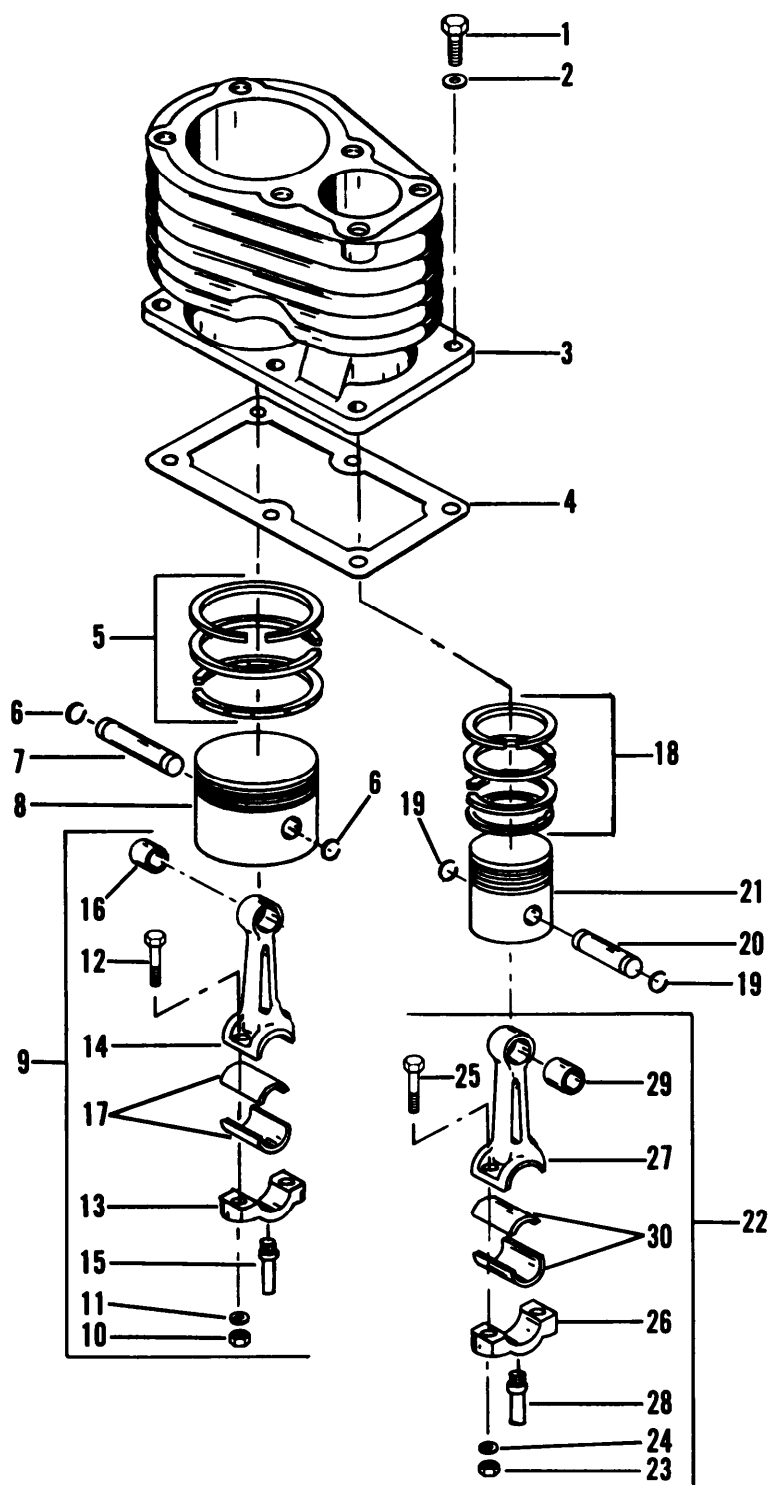

Figure 5-4. Cylinder, pistons, and connecting rods
- (1) Unscrew and remove six cylinder bolts (1, fig 5-4) and washers (2). Tap cylinder (3) lightly on mounting flange to break seal with compressor frame and carefully lift off cylinder (3). Remove gasket (4).
- (2) Use a piston ring expander and remove the three-ring first stage ring set (5). Remove the two piston pin retaining clips (6), slide out piston pin (7) and remove the first stage piston (8).
- (3) To remove first stage connecting rod assembly (9), rotate crankshaft to position where connecting rod cap nuts (10) can be reached. Remove the two nuts (10), lockwashers (11) and bolts (12). Carefully separate rod cap (13) from rod (14).
Legend for fig 5-4:
**b. Cleaning.** Clean all parts in solvent, P-D-680, or equivalent. Dry thoroughly. Clean any gasket material that may have stuck to cylinder (3, fig 5-4) flange or compressor frame by carefully scraping off the material.
(5) Examine all parts for nicks, crack, breaks, damage to threads, and distortion.
**d. Repair/Replacement.** Replace damaged piston rings (5, 18, fig 5-4) in sets only. Cylinder (3) bores may be honed to remove scratches within limits shown in table 5-2. Replace all damaged parts. Replace cylinder gasket (4) each time cylinder (3) is removed. Replace connecting rod bearings (17, 30) when worn beyond limits shown in table 5-2.